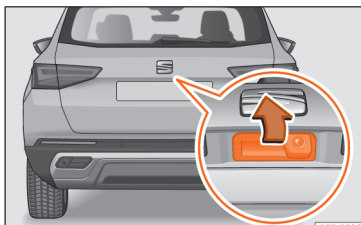

Fig. 59 Rear lid: opening from the outside.
- *Open*: place slight pressure on the handle. The rear lid opens automatically >>> **Fig. 59**.